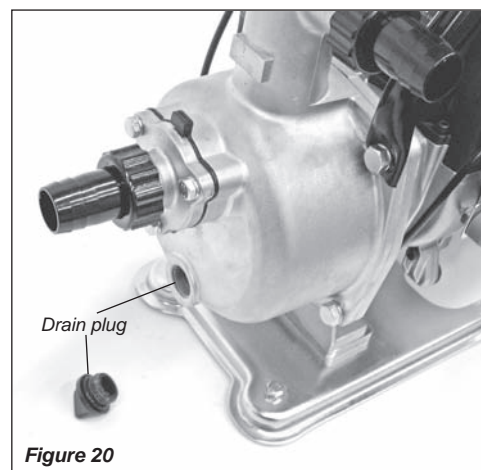

Figure 20
- Remove the drain plug and drain all water from the pump housing. See Figure 20.